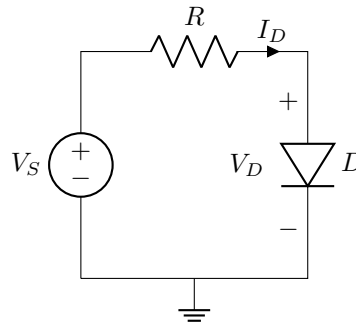

Figure 1: Forward-bias pn junction I-V characteristic measurement circuit.
In this portion of the experiment, you will measure the forward-bias current-voltage characteristics of a silicon diode. Begin by constructing the circuit shown in Figure 1 on your breadboard using the small-signal silicon diode and the 1 k $\Omega$  resistor. Ensure that the diode is oriented correctly with the anode connected toward the positive supply terminal and the cathode toward ground. Connect one DMM across the diode terminals to measure the diode voltage  $V_D$  directly. To measure the current through the diode  $I_D$ , you have two options: either connect the second DMM in series with the circuit (being careful to observe the current measurement limits of your meter), or measure the voltage across the resistor and calculate the current using Ohm's law ( $I_D = V_R/R$ ). The second method is often preferred as it avoids potential issues with meter burden voltage.
2. For the circuit in Figure 1, assume  $V_S = 5$  V,  $R = 1$  k $\Omega$ , and the diode forward voltage is 0.7 V when conducting. Calculate (a) the voltage across the resistor, (b) the current through the diode, and (c) the power dissipated by the diode. Show all calculations.